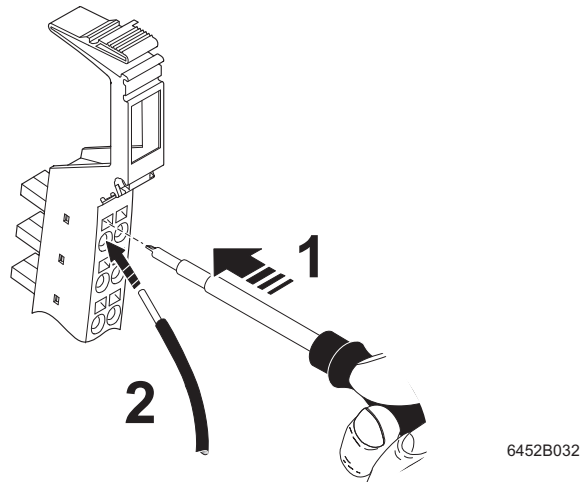

Figure 4-6 Connecting unshielded cables
- Push a screwdriver into the slot of the appropriate terminal point (Figure 4-6, detail 1), so that you can insert the wire into the spring opening. Phoenix Contact recommends the screwdriver SZF 1 - 0.6X3.5 (Order No. 1204517; see Phoenix Contact “CLIPLINE” catalog).
- Insert the wire (Figure 4-6, detail 2). Remove the screwdriver from the opening. This clamps the wire.